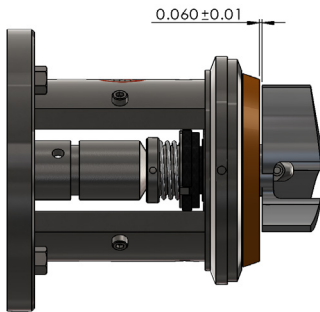

Figure No. 1
1. Install the adapter onto the motor using (4) bolts and (4) lock washers.
- d. Using feeler gauge between back plate and impeller position stub shaft so that the gap is equal to $.060'' \pm .010''$. (see figure no. 1)